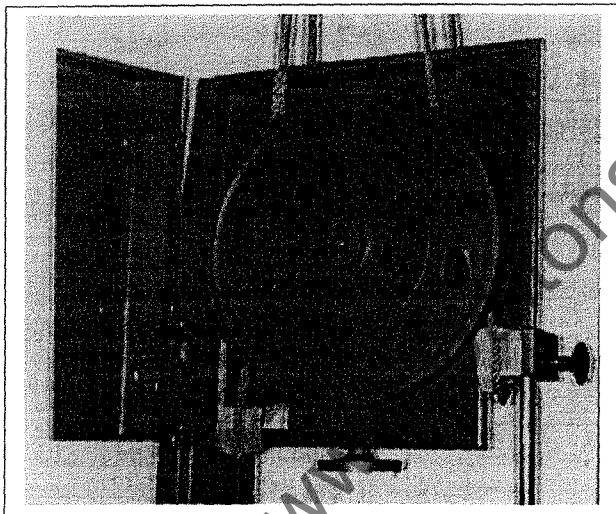

Fig 2
2. Open top door of machine and position sling around top frame and behind top wheel as shown in FIG 2 and 3.